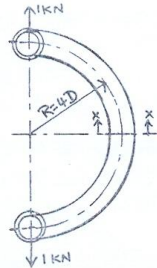

Fig.Q1(a)
- 1 a. Determine the dimensions of the curved bar shown in Fig.Q1(a). Assume  $\sigma_{yt} = 400 \text{ MN/m}^2$  and FOS = 3.5. (10 Marks)